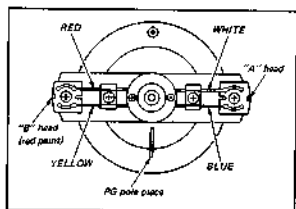

Fig. 4-3. Position of the head assembly
10. Carefully place the Video Head Assembly on the platform with the B head (identified by the red paint) at the left. See Fig. 4-3. The head assembly should fit down snugly against the platform without using force